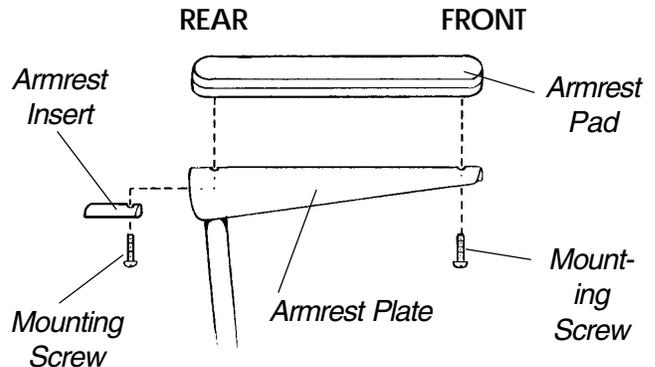

FIGURE 5 - REPLACING ARMREST PADS
**REPLACING ARMREST PADS (FIGURE 5)**